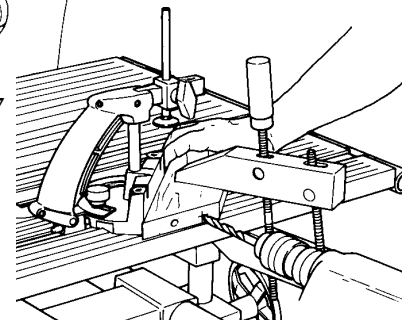

Figure C-38
2. You can also use the miter gauge as a backstop. Be sure to clamp the stock to the table. Otherwise the bit will push the stock out of alignment. See Figure C-38.